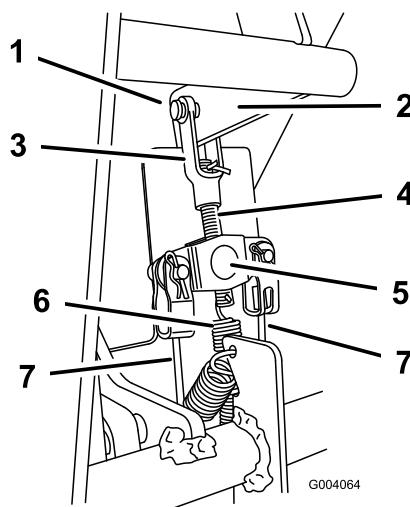

Figure 31
2. Check the brake cables at the brake equalizer (located under the dash) and determine approximately how far up the brake rod the equalizer needs to travel so that there is no slack in the cables (Figure 31).
3. Remove the hairpin cotter and clevis pins securing the brake rod clevis (Figure 31).
4. Disconnect the spring from the end of the brake rod (Figure 31).
6. Thread the brake rod in or out of the brake equalizer as needed to remove the slack from the brake cables (Figure 31). Do not overtighten the cables.
7. Install the spring into the hole in the brake rod (Figure 31).
8. Connect the clevis on the brake rod to the brake lever using the clevis pin and hairpin cotter removed previously (Figure 31).